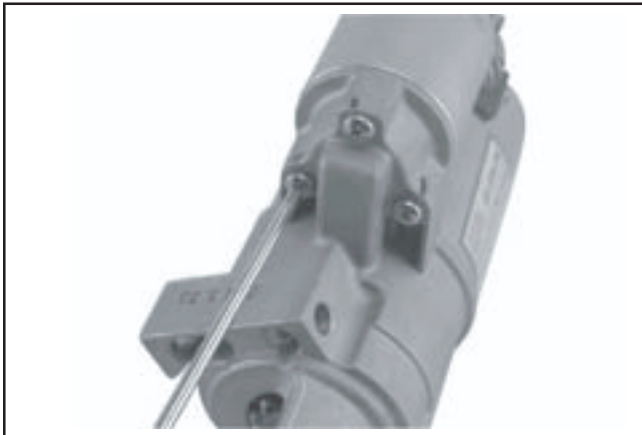

Figure 8-11. Removing Solenoid Screws.
2. Remove the three screws* securing the solenoid to the starter. Remove the solenoid and plunger spring from the drive end cap. See Figures 8-11 and 8-12.